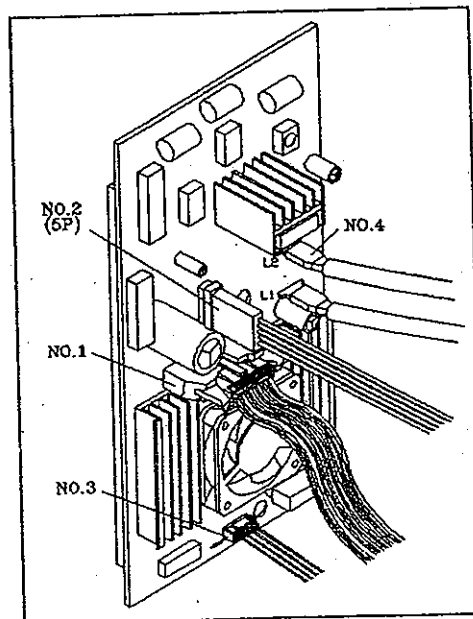

Fig. 2
- b. Make sure all the connectors to the drive board are plugged in correctly and securely in place (see Fig. 2).